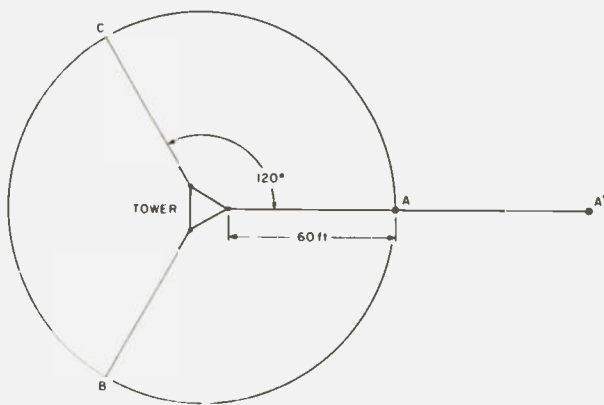

Fig. 1. Diagram for 60' tower and guys.
3) The guy-line anchors should be at 120° spacing from each other. If available, a surveyor's transit should be used to site their locations. Fig. 1 demonstrates this. Note that it is not necessary to have all the anchors in a circle (i.e., equal distance from the base). This is shown by point A' of Fig. 1. Every effort should be made to keep the anchors as close to 120° apart as possible. The more you deviate from this, the more vulnerable is the tower to twisting torque.